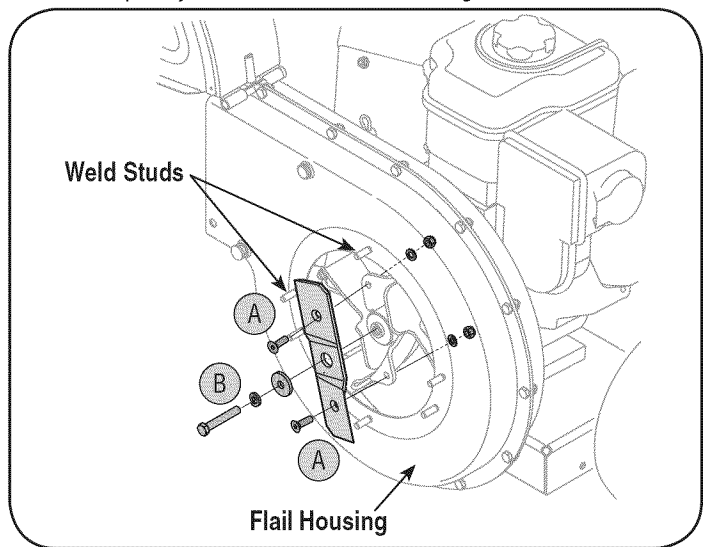

Figure 16
B. Remove the hex bolt, lock washer, and flat washer to completely free shredder blade. See Figure 16.